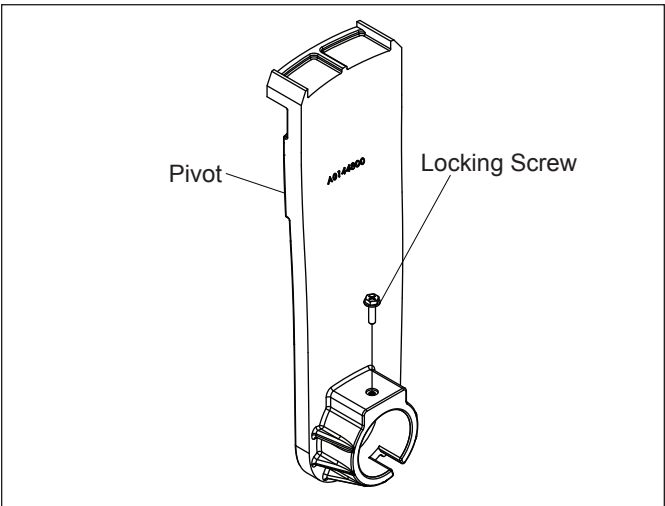

Figure 11. Locking Screw Location
- 6. The laminar jet is installed on two (2) pivots. Loosen the locking screws to adjust the jet angle. Refer to Figure 11. Once you are satisfied with the angle and location of the jet, tighten the locking screws.
- 7. Secure the deck canister lid to the deck canister collar, using two (2) #10 by 1½ inch, Phillips, flat head stainless steel screws.